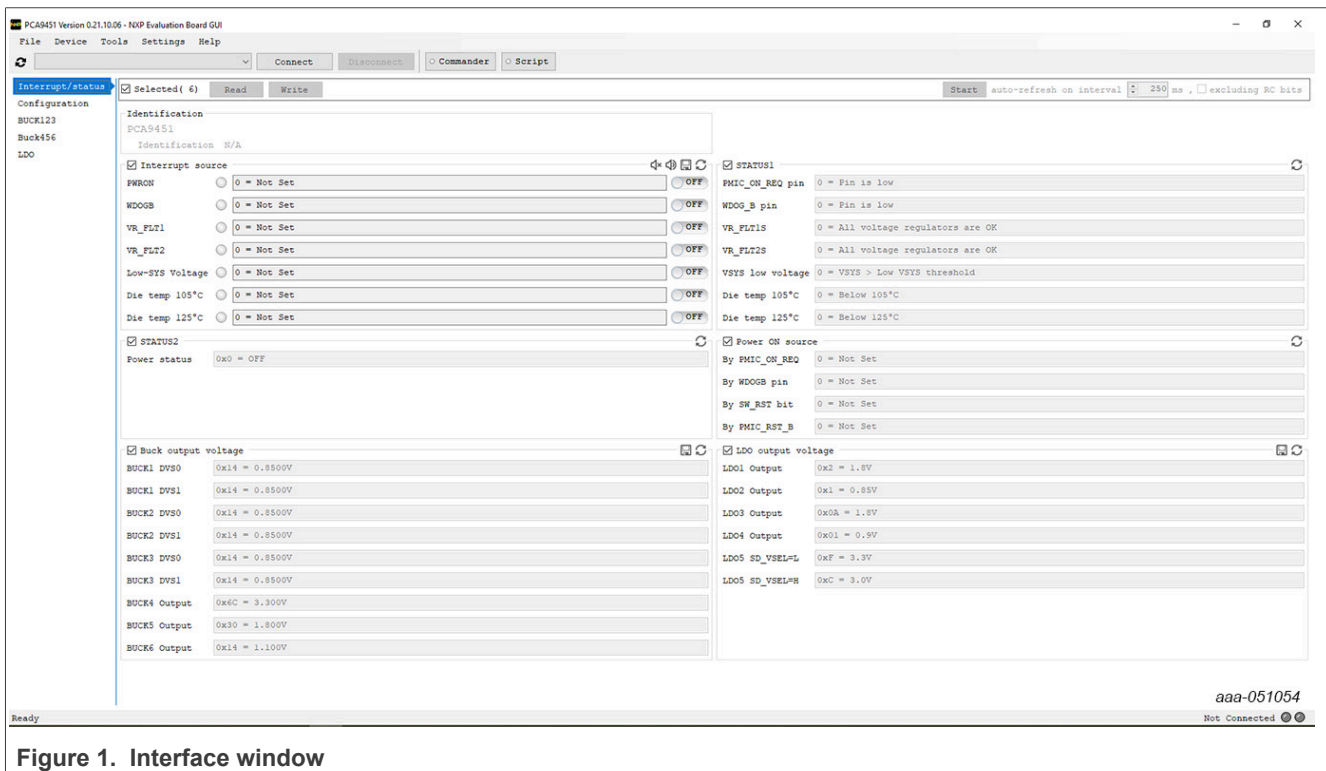

Figure 1. Interface window
- Run the file PCA9451.exe. The interface window is shown in Figure 1.